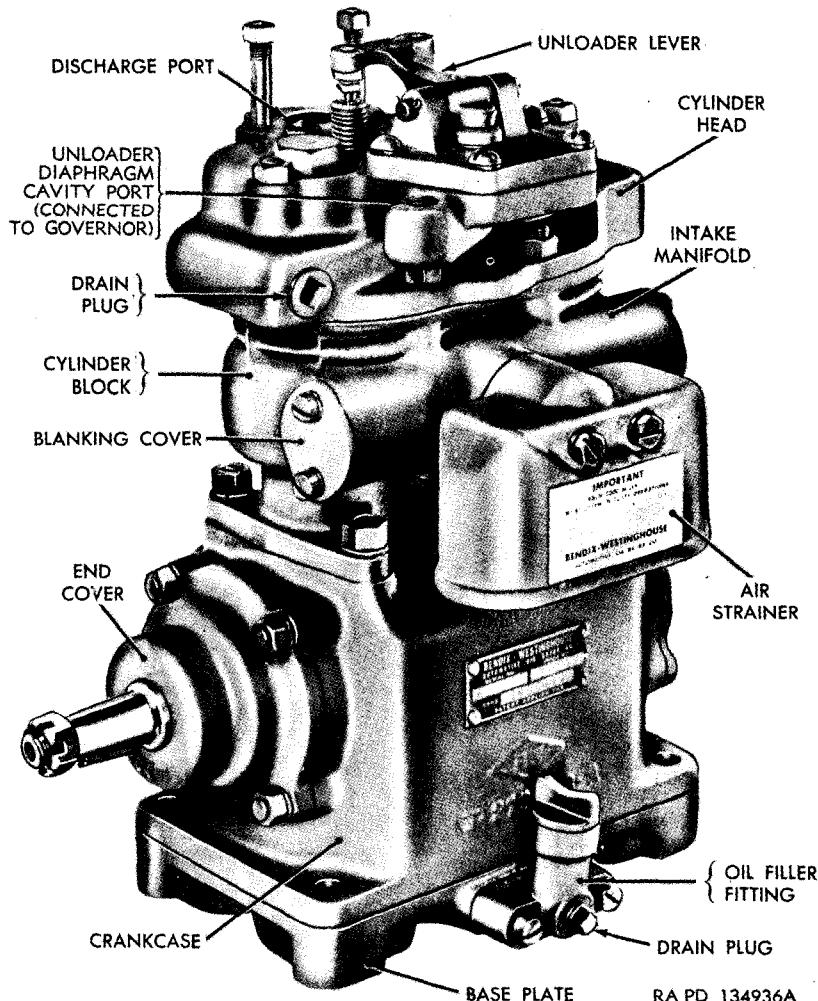

Figure 15. Type 2-US-7½-VW compressor.
(2) *Self-lubricated.* Self-lubricated compressors have a crankcase base which forms an oil reservoir. A piston type oil pump, mounted in the base and driven by the crankshaft, forces oil to the various parts of compressor through passages similar to those in engine-lubricated compressors. Oil pressure is controlled by a relief valve adjacent to pump. Surplus oil returns to reservoir in base (figs. 15 and 44).